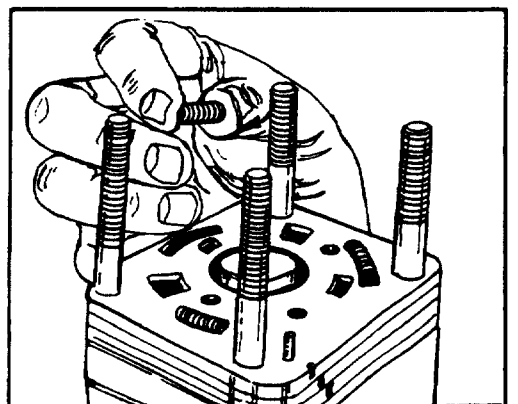

FIGURE 13.
14. Remove three springs (14) from the isolation manifold (15) pockets. See figure 13.